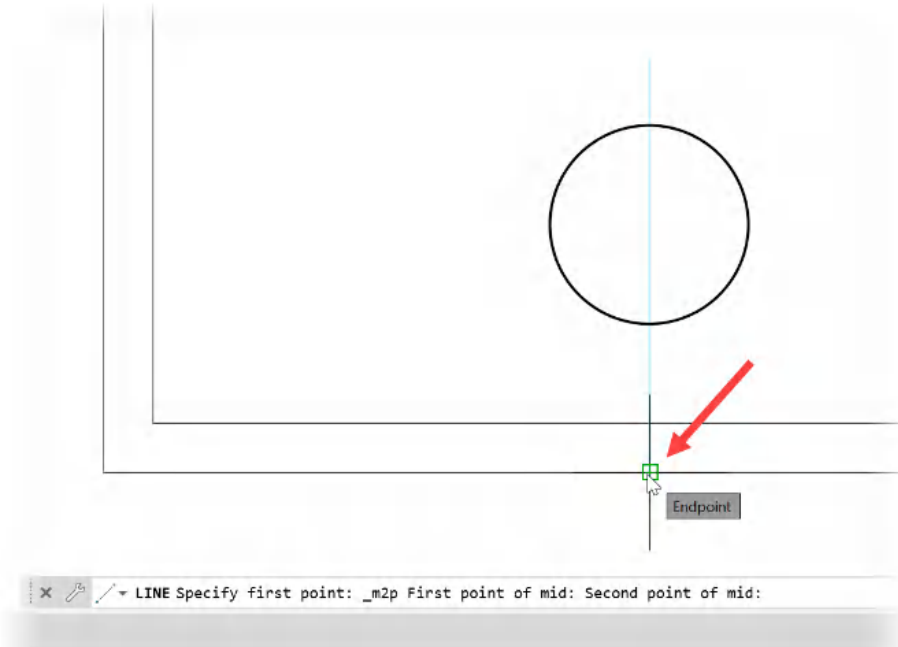

Figure 5.22: The second midpoint is the Endpoint Osnap shown (arrowed)
5. Then, click on the **Endpoint** Osnap shown in *Figure 5.22*. This will be the second midpoint: